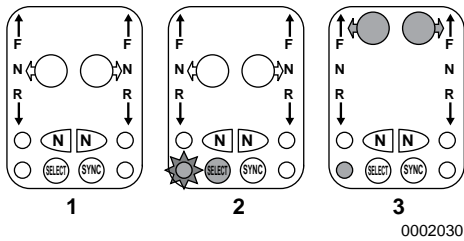

Figure 12
1. **(Figure 12, (1))** shows a typical inactive station.
2. Press the SELECT button **(Figure 12, (2))**. The button lights (grayed in **Figure 12**) and the station select light flashes (star around light in **(Figure 12)**).
3. Move the handle(s) to F (forward) or R (reverse) throttle to match the handle location of the active station **(Figure 12, (3))**. The corresponding handle button lights glow steady (grayed in **(Figure 12, (3))**) and the station select light glows steady (grayed in **(Figure 12, (3))**).